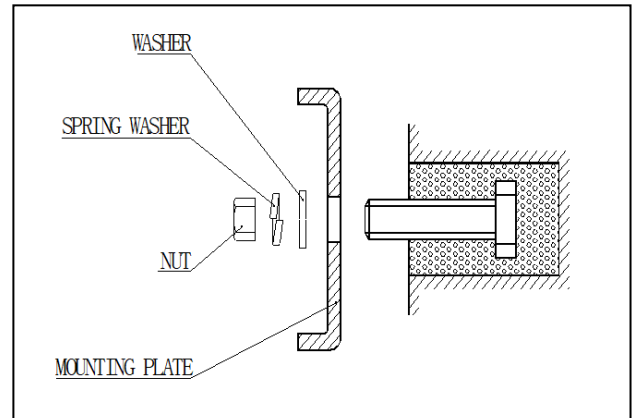

FIG. 2
3. Install the mounting plate(s) centered above the opening. (FIG. 2).